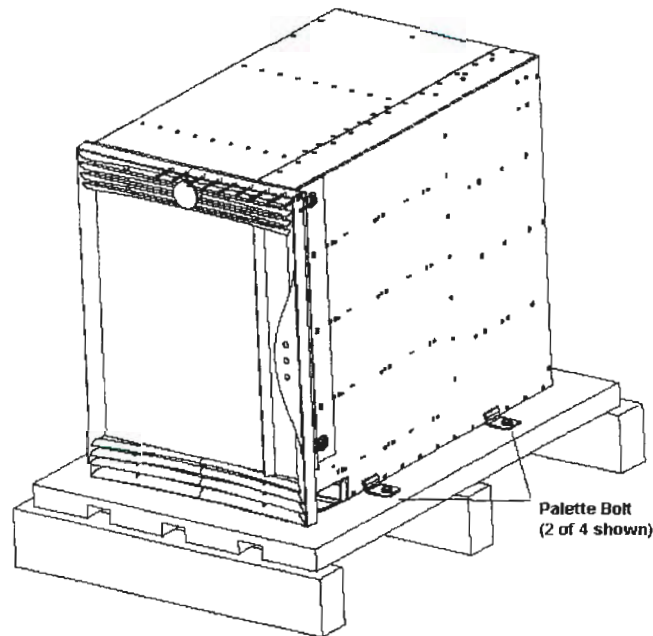

Figure 1 EMC Connectrix Enterprise Director Model ED-12000B on its Shipping Pallet
2. Unscrew the four bolts holding the ED-12000B to the pallet (see Figure 1), and remove the brackets.